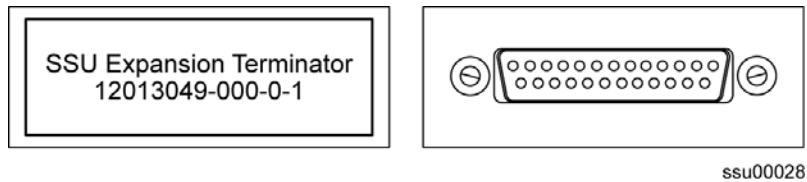

Figure 2-10. SSU Expansion Terminator (J8)
1. Install the BUS Termination Assembly (12013049-000-0-1, shown in Figure 2-10) on connector J8 of the main shelf.